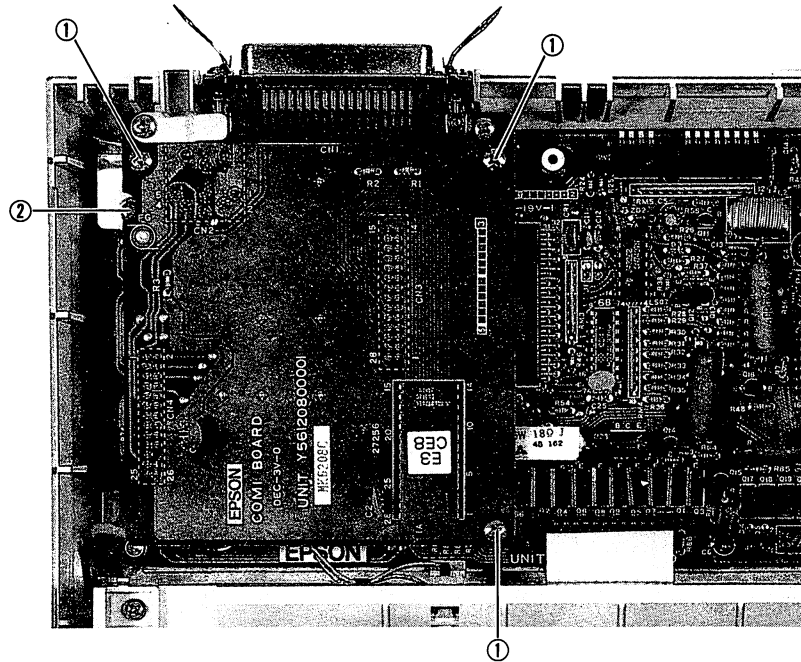

Fig. 4-2. COMI Board Removal
4.2.2 COMI Board Removal (Fig. 4-2)